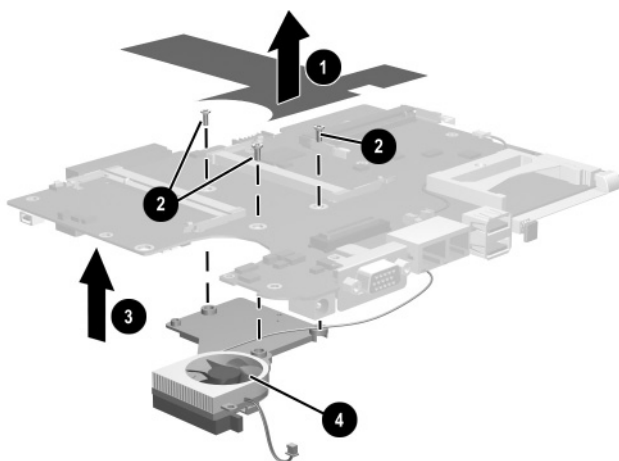

Figure 5-27. Removing the Fan and Heat Sink
8. Remove the mylar system board shield ❶ (Figure 5-27).
9. Remove the three PM2.0 × 5.0 screws ❷ that secure the fan and heat sink to the system board.
10. Lift the system board straight up ❸. The fan and heat sink ❹ will remain resting on the work surface.